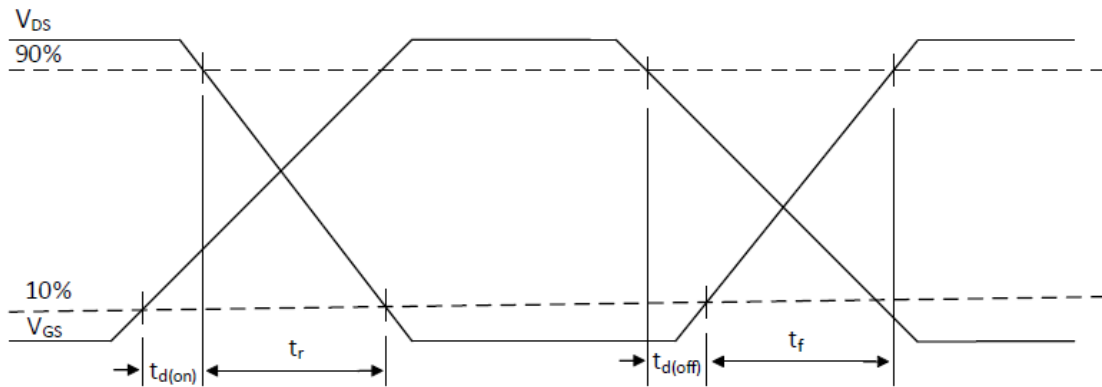

Figure 17: switching time waveforms
(5) L_P = parasitic inductance
(6) See Figure 17 for switching loss test circuit